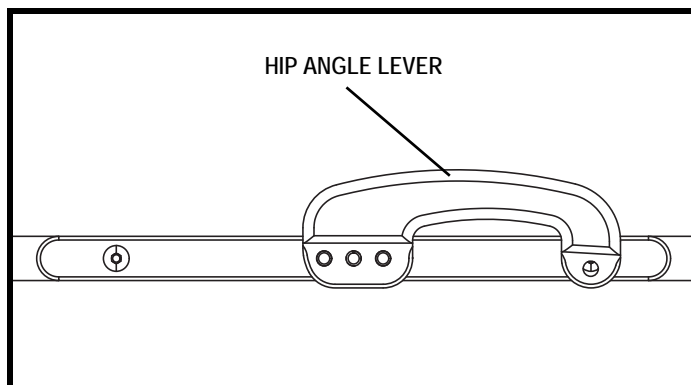

Figure 11. Kids UP Hip Angle Lever (Latched)
2. Lift upward on the hip angle lever, which is located on the back of the wheelchair. **See figure 11.**
2. While supporting the child's weight, pull up the hip angle lever. **See figure 11.**
4. Verify the lever has returned to the latched position. **See figure 11.**